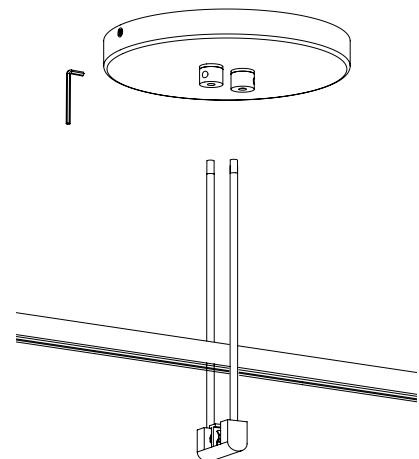

Fig. 2
1. Install the Double Cord Power Feed Hanger onto the Power Bar: press down firmly on the top of the Power Bar, while pressing up on the bottom of the Hanger, until the Power Bar clicks into place. (Fig. 2)